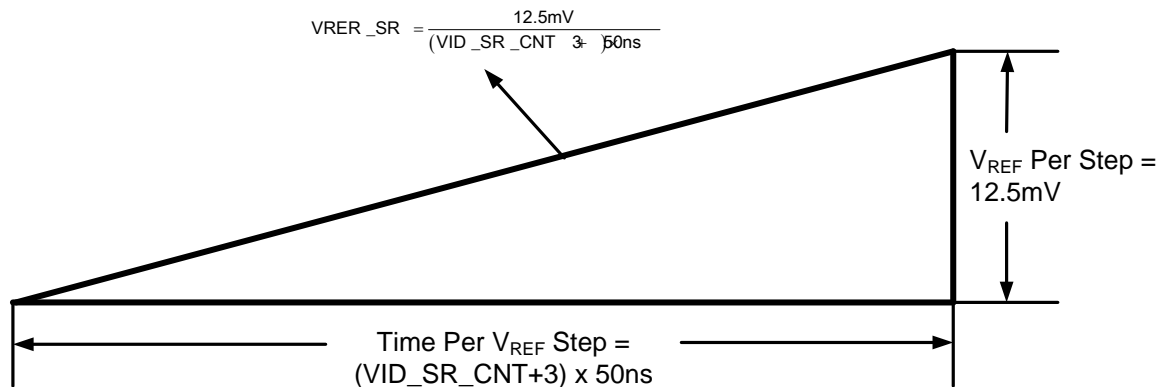

Figure 23: Dynamic VID Slew Rate Definition
Figure 23 shows the definition of sub-registers in TON_RISE.
The TOFF_FALL command is used to set the reference voltage transition down slew rate at soft-off and margin low transition. The sub-register definition is same as in Figure 23. The slew rate also can be calculated with Equation (13).